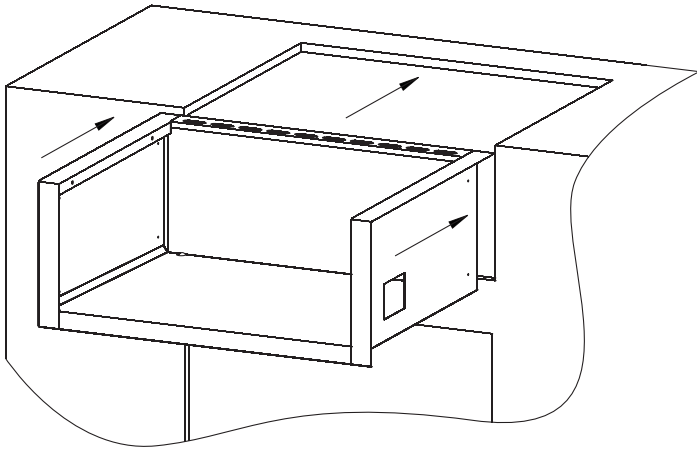

Figure 1
1. Remove the surround from the shipping box and place the SBB surround into position in the constructed enclosure. See **Figure 1**.